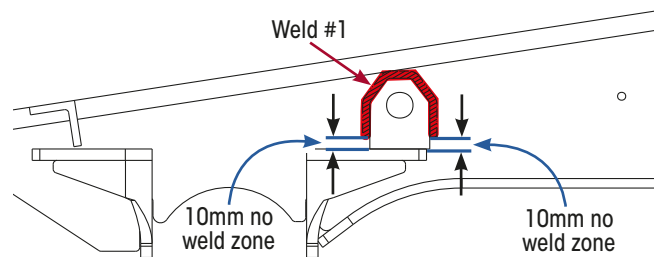
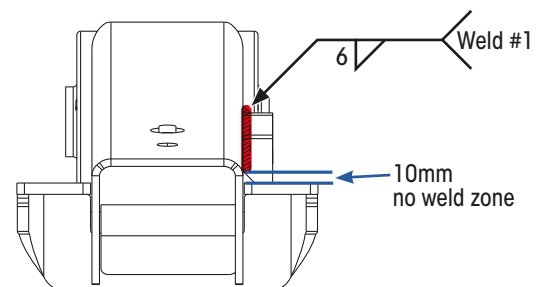

Figure 4: Weld #1 - Side View
Figure 5: Weld #1 - Rear View
2. **WELD #1.** Apply a weld around the block in one continuous bead commencing and terminating ten millimetres from the existing trailing arm weld. Do not weld in the 10mm no weld zone, which is at the U-bolt bracket weld. Refer Figure 4 and Figure 5.